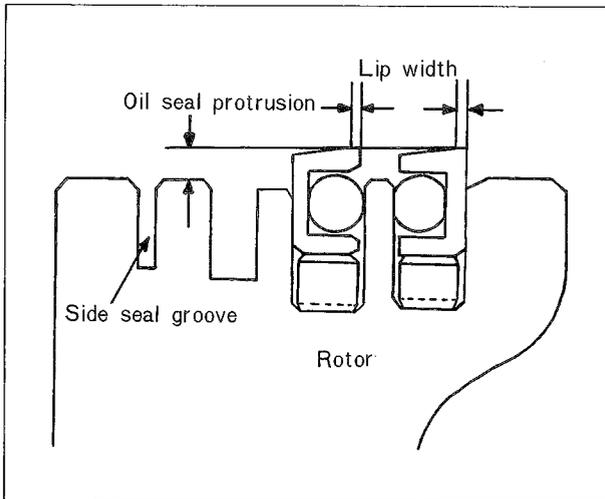

Fig. 1-41 Checking oil seal protrusion
3. Check the oil seal protrusion as shown in Fig. 1-41 and replace the oil seal spring if the protrusion is less than **0.5 mm (0.02 in)**.